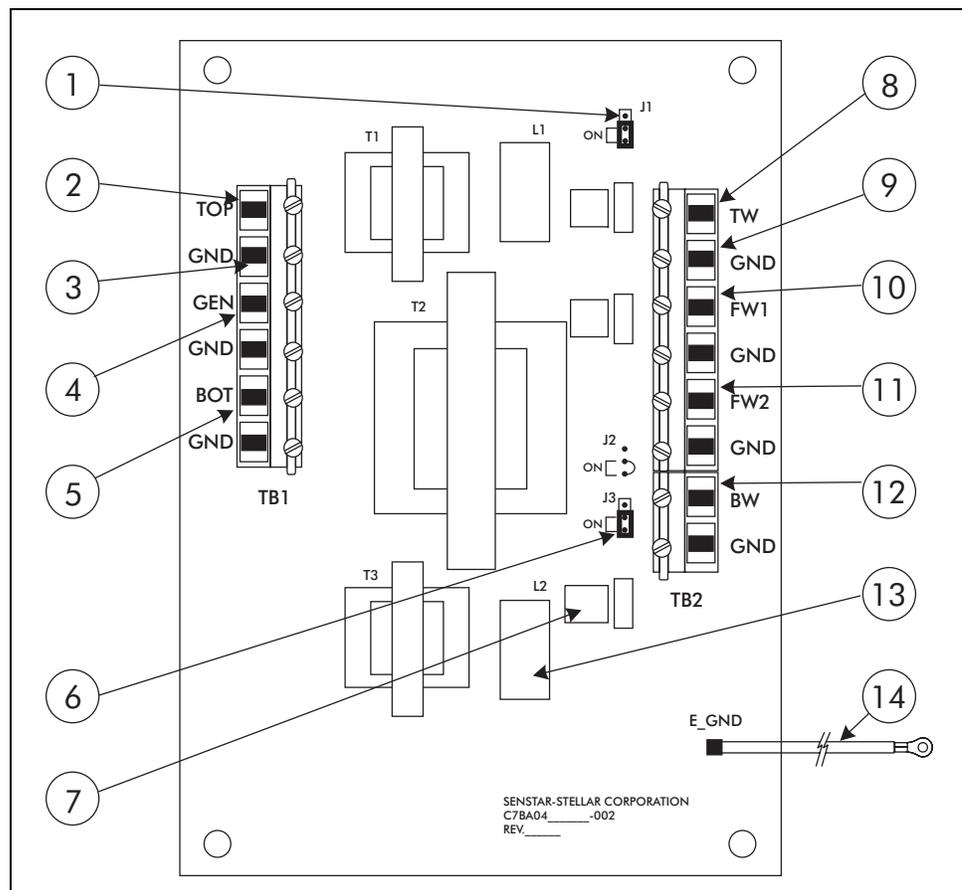

Figure 5-5 Isolation transformer card
There are two separate ground planes on the isolation transformer, signal ground and earth ground. The isolation transformer signal ground is connected to the processor signal ground via the shields of the interconnecting coaxial cables. The earth ground harness (Figure 5-5 item 14) is connected to the ground stud on the isolation transformer enclosure.